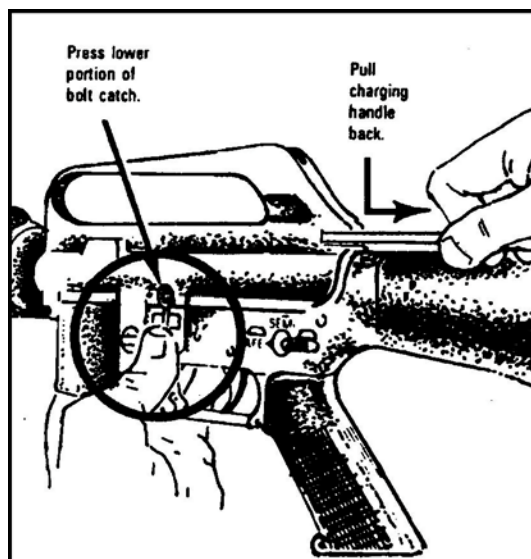

Figure 2. Locking the bolt open.
- d. Lock the bolt open (Figure 2).